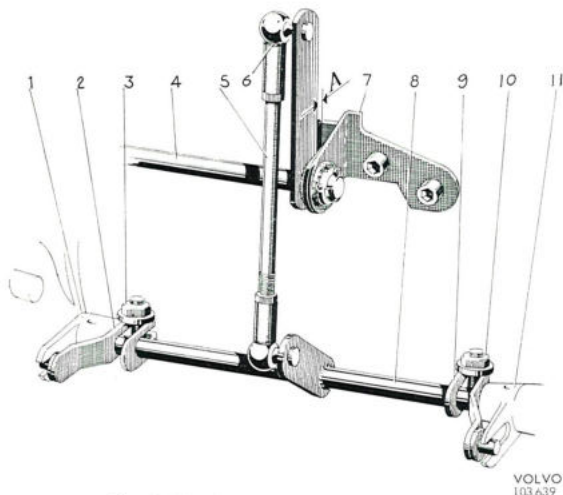

Fig. 2-117. Intermediate shaft and levers
2. Fit the intermediate shaft in position between the carburetors, see Fig. 2-117. Make sure that the protective plate is not damaged and that the sealing surfaces are clean.
1. Place a feeler gauge 0.5 mm (0.02") at "A" Fig. 2-117, between the lever and its stop. Screw out
2. Release the nuts (3 and 10, Fig. 2-117) and carefully press the outer end of the levers (2, 9) on the intermediate shaft downwards so that the flange pins make smooth contact with the lower tooth on the levers (1, 11) of the throttle spindles. **N.B.** Do not press so hard that the primary throttle is influenced. Tighten the nuts (3, 10) in this position. Make sure that the intermediate shaft can be pushed forwards and backwards a little. It must not jam due to, for example, the levers (2, 9) being fitted too near the carburettors.